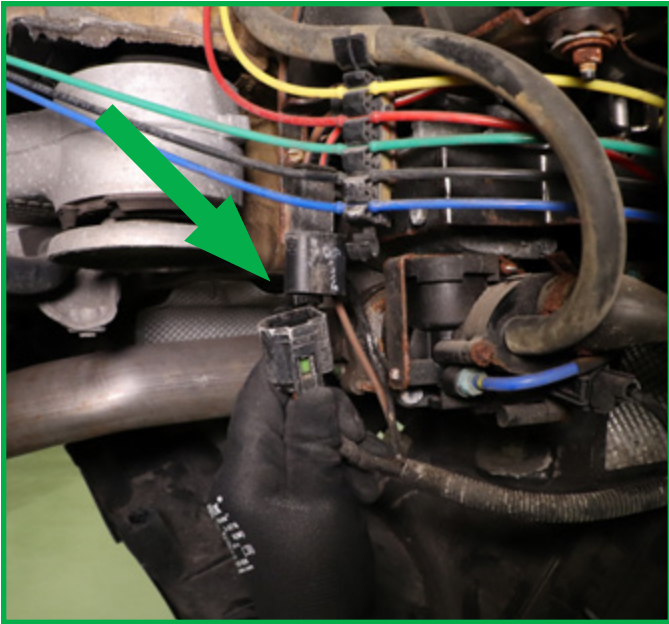

FIGURE 7
5. Disconnect the three (3) electrical connectors from the valve block and compressor assembly. (Figures 7, 8, 9)